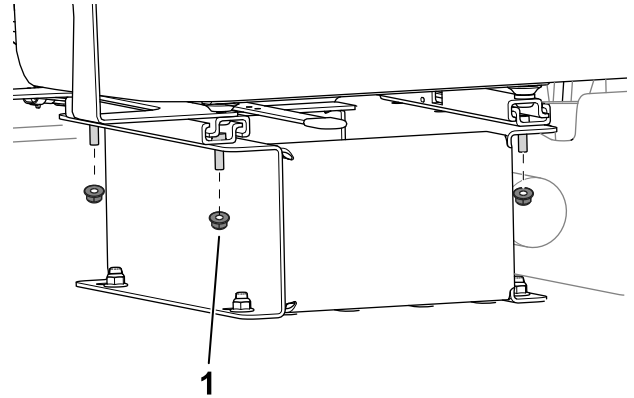

Figure 3
1. Use 4 nuts to secure the seat to the seat base (Figure 3).